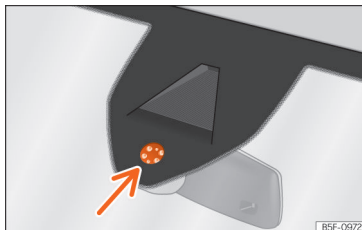

Fig. 103 Rain sensor sensitive surface
Possible causes of faults and mistaken readings on the sensitive surface » » Fig. 103 of the rain sensor include:
- Regularly clean the sensitive surface of the rain sensor » » Fig. 103 (arrow) and check for possible damage to the wiper blades.